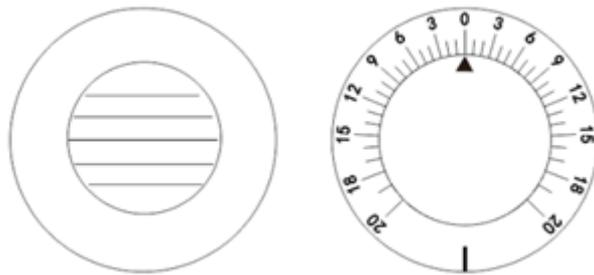
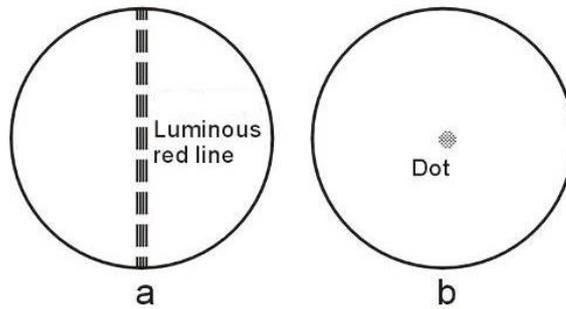
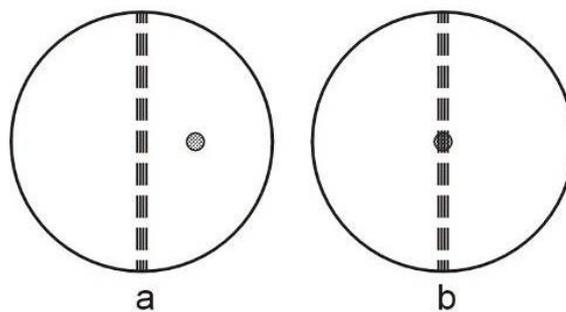
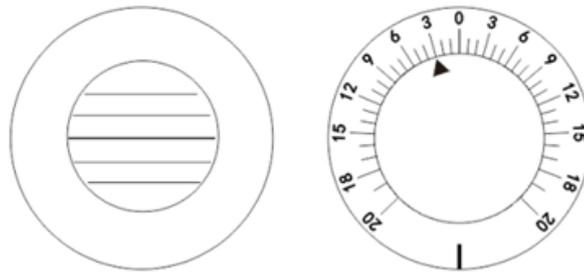

Fig.44
Fig.45
Fig.46
Fig.47
(1) Maddox rod and rotary prism method
a. First conduct horizontal phoria measurement. Proceed according to (1) rotary prism method described in 6.8.5 Binocular Balance Test. Turn auxiliary lens rotation knob ②, and set right eye to MRRH (Fig.44). Turn prism rotation knob ① with its setting 0 on the triangle symbol facing the left eye. Light a small fixation light at the position where the chart is projected. Now Testee's right eye can see a red vertical line (see Fig.45 a), and his left eye can see a light spot (see Fig.45 b). They are probably (a) or (b) of Fig.46. The light spot will also move when prism rotation knob ① is turned. Then ask the patient to tell when he sees the image shown in Fig.46 b. The test result is shown in Fig.47. The prism rotation scale is shown as 2. The result of 2ΔI (base inward) stands for 2